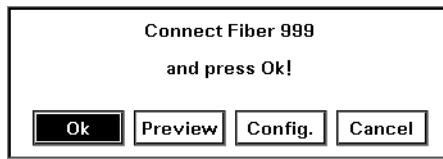

Figure 6-3
You see the message, `Connect Fiber nnn` and press `OK!`, where *nnn* is the next fiber number (Figure 6-3).
- 23 When you have seen enough of the preview measurement, press **SELECT** to return to the connect fiber message (Figure 6-3).